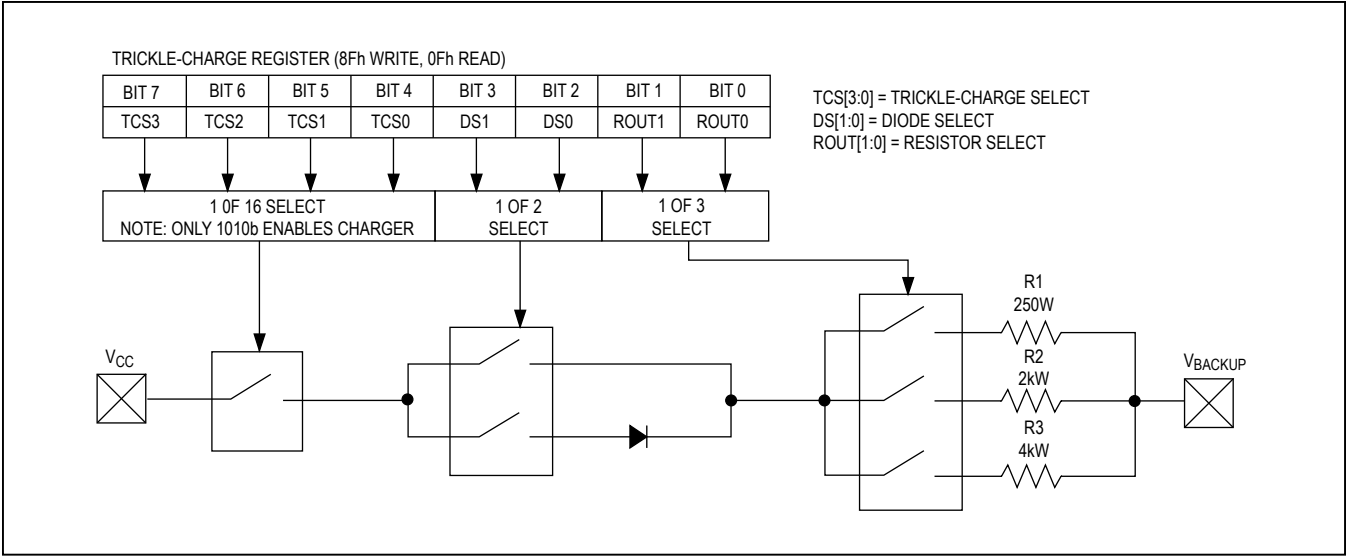

Figure 8. DS1390–DS1394 Programmable Trickle Charger
The simplified schematic in Figure 8 shows the basic components of the trickle charger. The trickle-charge select (TCS) bits (bits 4 to 7) control the selection of the trickle charger. To prevent accidental enabling, only a pattern on 1010 enables the trickle charger. All other patterns disable the trickle charger. The trickle charger is disabled when power is first applied. The diode-select (DS) bits (bits 2 and 3) select whether or not a diode is connected between V_{CC} and V_{BACKUP} . If DS is 01, no diode is selected or if DS is 10, a diode is selected. The ROUT bits (bits 0 and 1) select the value of the resistor connected between V_{CC} and V_{BACKUP} . Table 5 shows the resistor selected by the resistor-select (ROUT) bits and the diode selected by the diode-select (DS) bits.